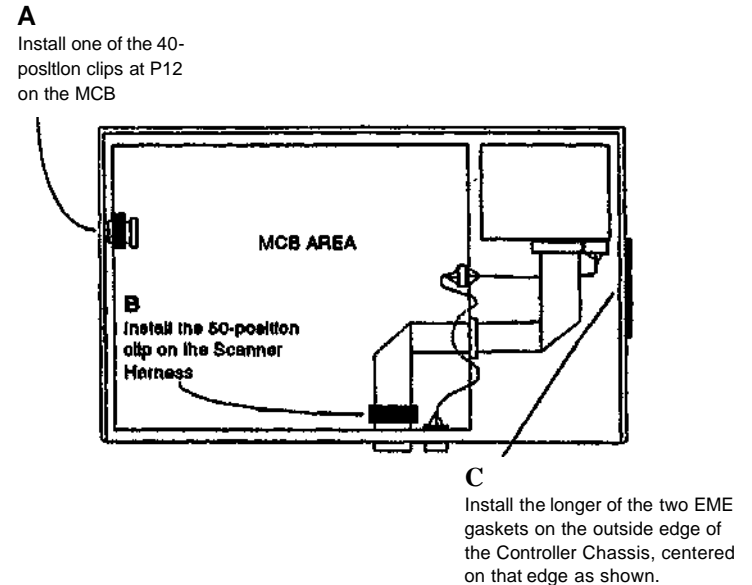

Figure 15 Partial Installation of EME Clips and Gaskets
30. (Figure 15): Install the following EME gasket and ferrite clips as shown.